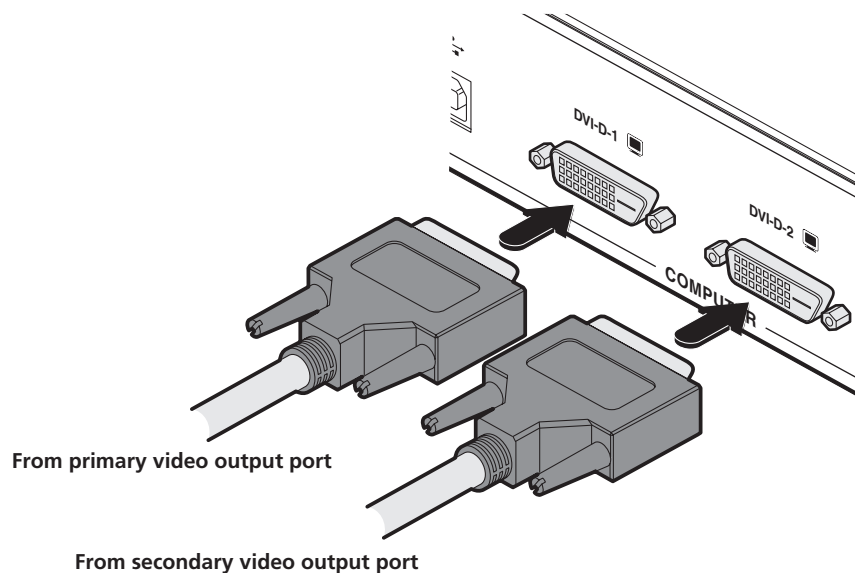

Figure 3-5. Connect standard DVI-D link cables to the DVI-D-1 and DVI-D-2 sockets.
- 2 Connect standard DVI link cables to the DVI-D-1 and DVI-D-2 sockets on the Local unit rear panel. See Figure 3-5.